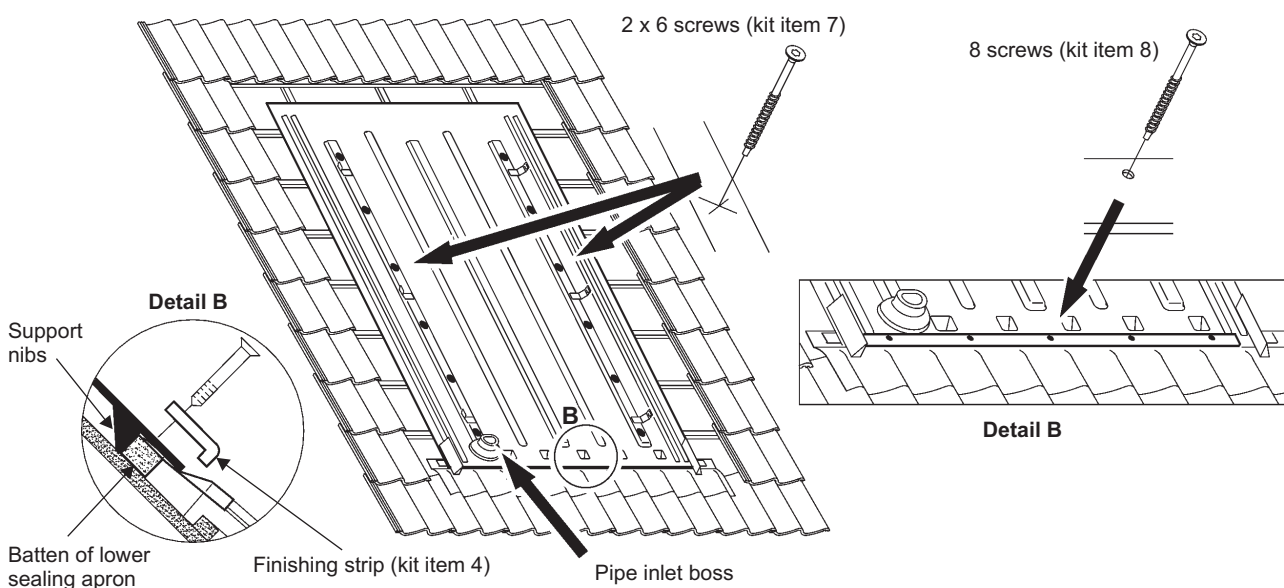

Fig. 6 - Flashing sheet and finishing strip
- Roll out and position the roof integrated flashing sheet (kit item 2). The pre-formed nibs at the bottom should rest against the batten of the apron seal as shown in detail 'B', Fig. 6. Before securing the sheet, mark the position of the pipe inlet hole required and carefully cut the underfelt or board for the pipes and sensor cable.
Fasten the flashing sheet to the battens using twelve of the 70 mm screws supplied (kit item 7) as shown in Fig. 6.
Position the finishing strip (kit item 4) along the bottom edge of the flashing sheet using eight of the 30 mm screws supplied (kit item 8) as shown in detail 'B', in Fig. 6.